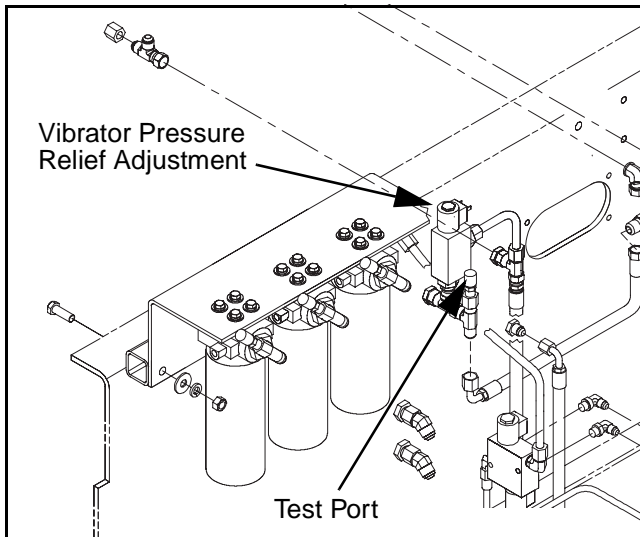

Figure 5 - 19 Remix Vibrator Pressure Test Port
- 2) Install a 3000 PSI pressure gauge to the test port on the vibrator solenoid valve. (Figure 5 - 19)